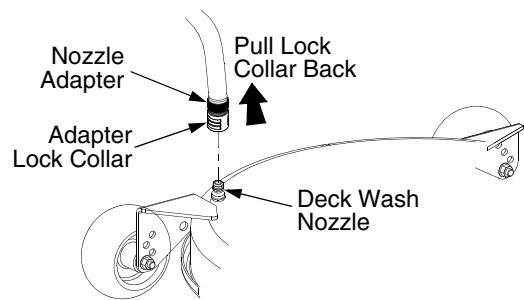

Figure 32
- Pull back the lock collar of the nozzle adapter and push the adapter onto one of the deck wash nozzles at either end of the mower deck. Release the lock collar to lock the adapter on the nozzle. See Figure 32.